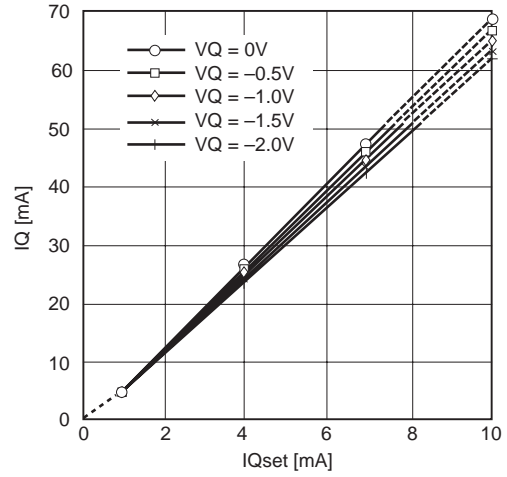

Fig. 2. Modulation current (IQ) vs. IQset characteristics
This circuit modulates the laser diode and the modulation current can be set by feeding the current to the modulation current set pin (Pin 14 DrvAdj). The relation between the modulation current (IQ) and the modulation set current (IQset) is shown in Fig. 2. There is also a modulation current monitor pin (Pin 13 DrvMon) that allows the IC user to monitor the modulation current by putting an external fixed resistor between Vcc and DrvMon pins, and the modulation current can be monitored by measuring the voltage of DrvMon pin. The relation between the modulation current (IQ) and the DrvMon current (Idrvmon) is shown in Fig. 7.